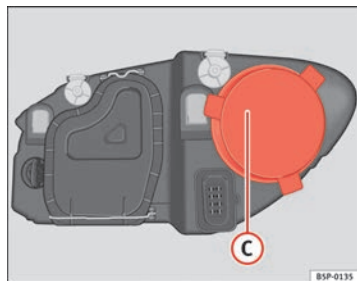

Fig. 190 Main beam headlights
- Remove the cover ⇒ fig. 190 ① by pulling on this.